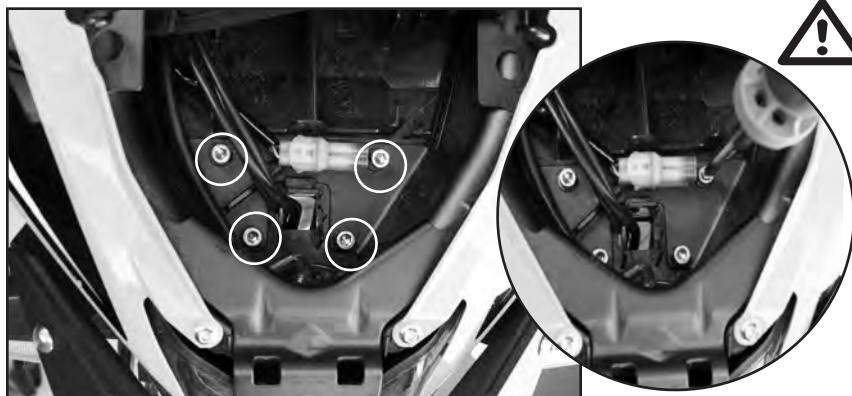

Figure 7
3. Tighten Screws Firmly. 7ft-lbs (7.5 Nm) torque. (5mm Hex Wrench, Torque Wrench) Figure 7